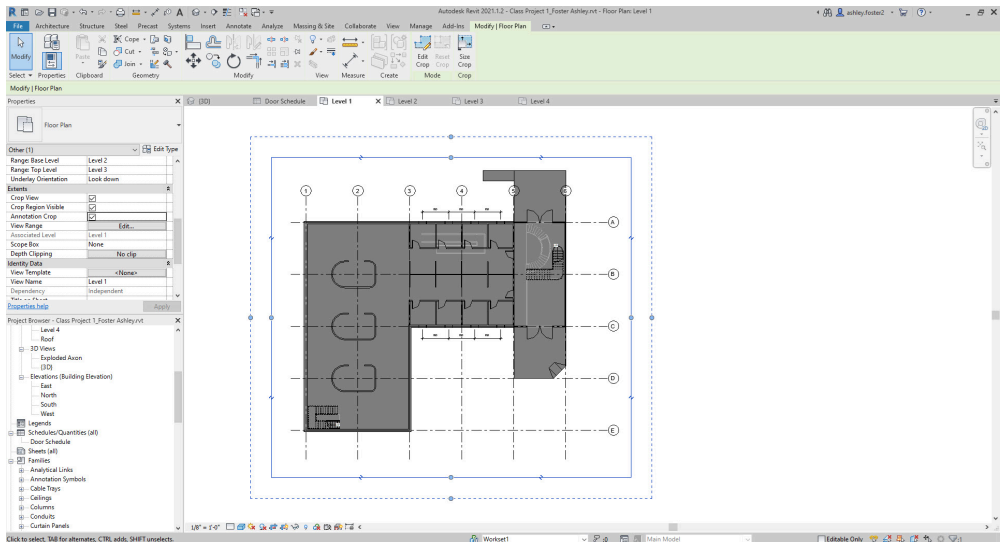

Figure 13.3 Adjusting the Crop view in plan view
11. Adjust the extents as shown in Figure 13.3 then click the green  checkmark.